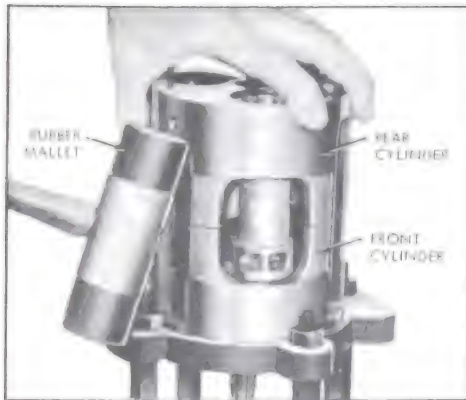

Figure 11-125—Separating Cylinder Halves
5. Separate front and rear cylinder halves, using a wood block or rubber mallet. See Figure 11-125. Rotate swash plate so that discharge tube does not contact it. A 9/16" open end wrench may be used on the shaft seal area of shaft to rotate swash plate.